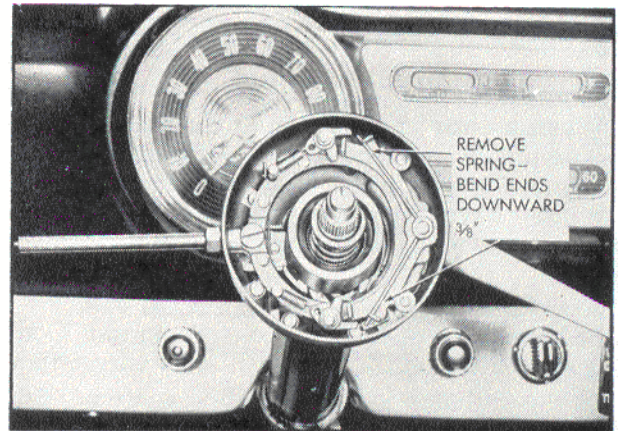

Fig. 4
3. Bend ends of spring downward $\frac{3}{8}$ " as illustrated in Figure 4.